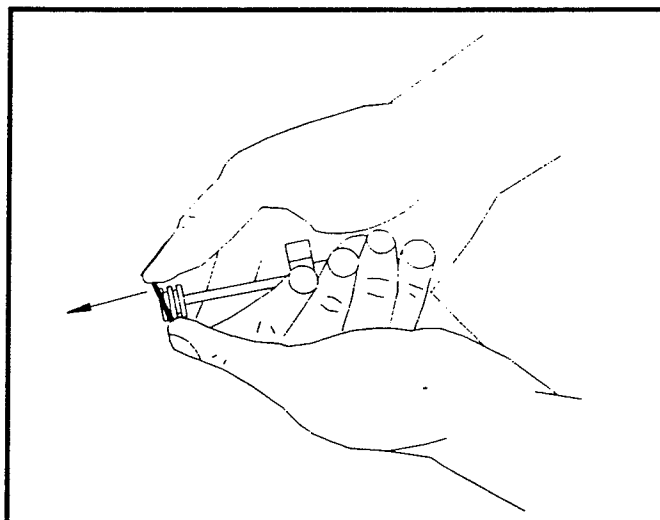

Figure 12
F.Remove all o-rings from parts by first wiping off the lubricant using a clean paper towel. Then squeeze the o-ring upward with a dry cloth if necessary (Fig. 12). When a loop is formed, use the thumb of the other hand and roll out of the o-ring groove toward the end of the part.